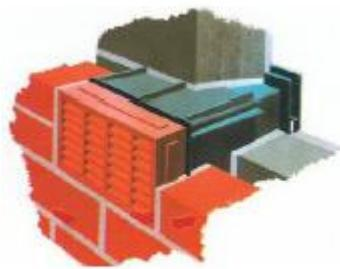

Figure 5^[2]
- Blocking of the existing air vents, which could, but not limited to, be providing air for a natural gas appliance, see Figure 5^[2]